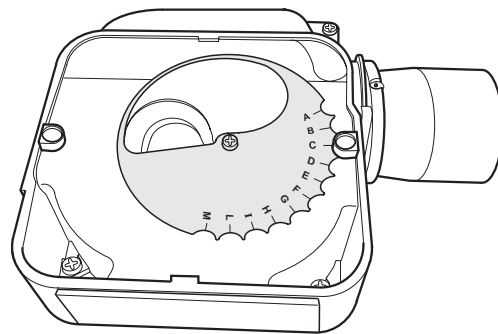

Fig. 18 - 50/70 burner air adjuster disc (shown set to position 'C')
4. The secondary air shutter disc is factory set in position 'C' – i.e. with the cut-out marked C located against the die-cast boss on the fan housing. See Fig 18.